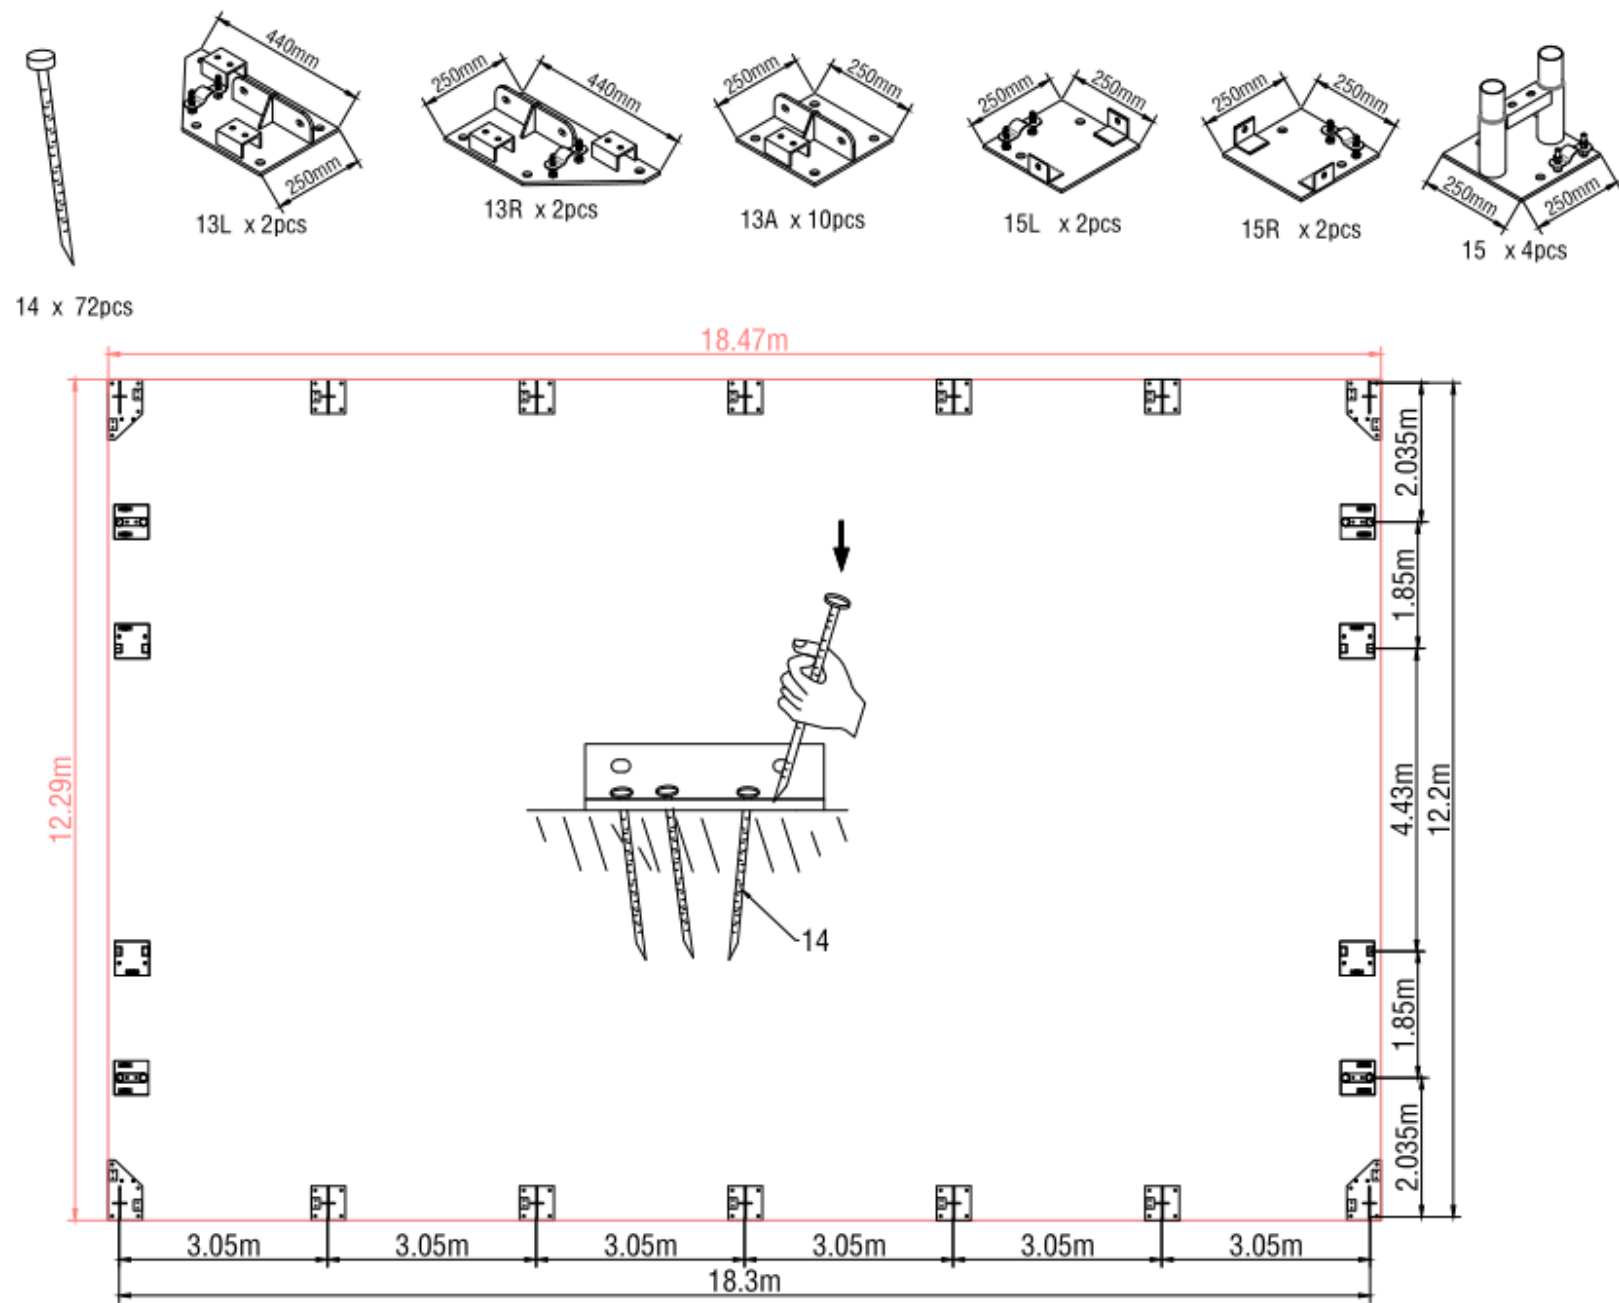

Figure 1
2. Please refer to the diagram (Figure 1) to place the base plates.
3. As Figure 1 shows each Base plate is equipped with 4 pieces of Stake pegs.(No.14) or Expand screw